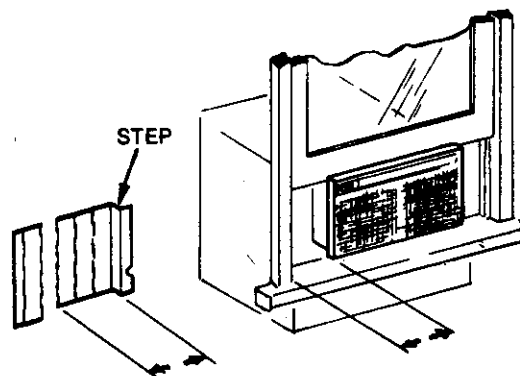

FIGURE 3
## PUT PANELS IN WINDOW (Figure 3)
14. Put in the left panel first. See figure 3.